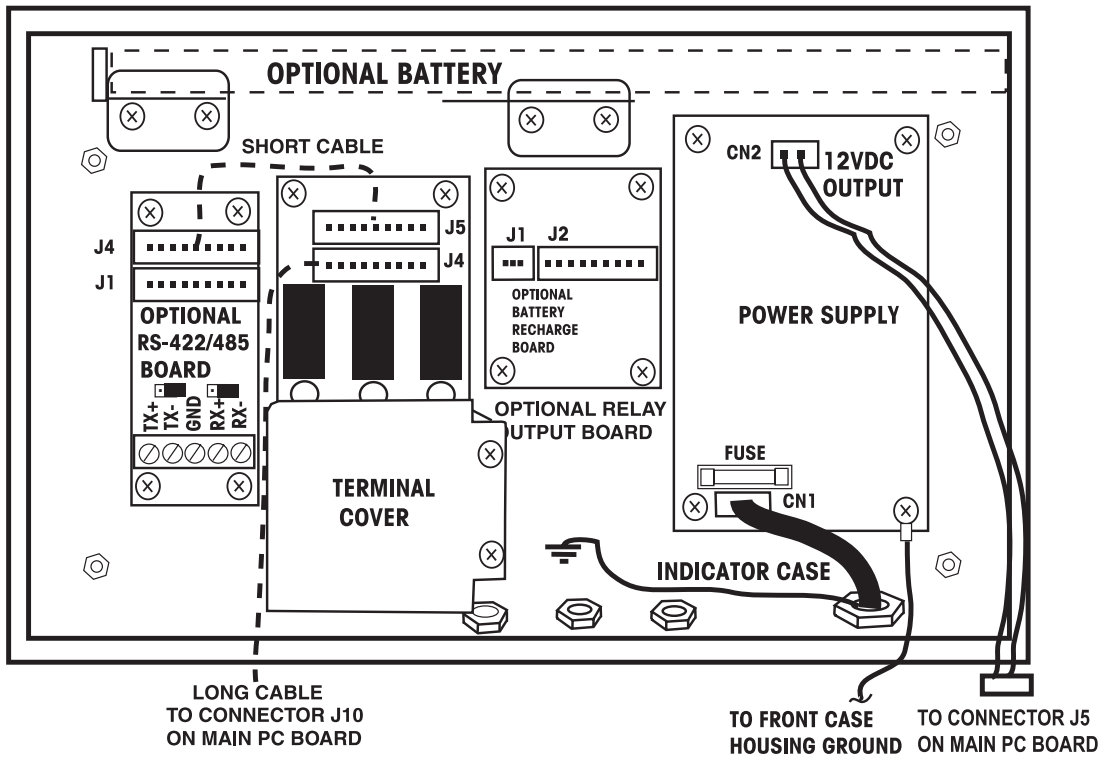

Figure 3-7 Relay Board with Terminal Cover.
The Recharge Board is supplied with the optional rechargeable battery. This test is made when the battery fails to charge properly. The Recharge board is equipped with a soldered in place Fuse F1 located near connector J1 on the board. If this fuse is open, the battery will not charge. See Figure 3-7 for the location of the board and fuse.
3. Locate the Relay board cover as shown in Figure 3-7 and remove the cover screws.